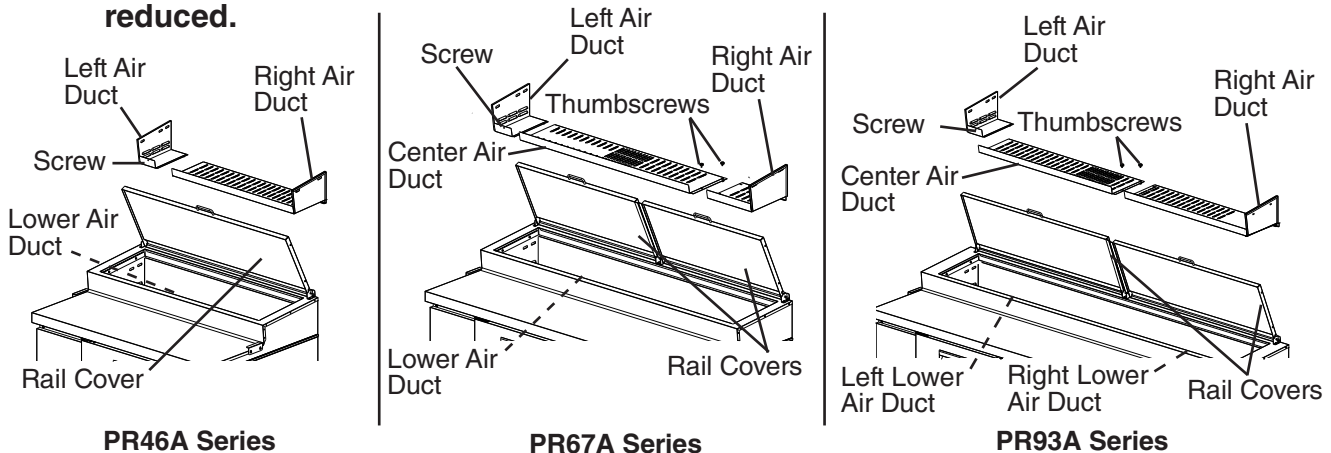

Fig. 38
- b) **Weekly:** Follow the steps below to remove and clean the air duct panels and rail area. The quantity of air duct panels varies by model. See Fig. 38.
- (1) Remove the thumbscrews (if applicable), then remove the air ducts. Remove the left air duct first, then the center air duct (if applicable), and finally the right air duct. Next, remove the lower air duct panel on the PR46A(-D2) and PR67A(-D2)(-D4), and the lower right air duct panel, and lower left air duct panel on the PR93A(-D2)(-D4)(-D6).
- (2) Wipe the air duct panels (top and bottom), rail area (sides and top), and surrounding mounting area with mild soap or detergent and warm water. Clean any rust colored spots using a non-abrasive cleanser. After cleaning, wipe the air duct panels with water.
- (3) Replace the lower air duct panel(s). Starting from the right side, replace the right air duct, center (if applicable), thumbscrews (if applicable), then the left air duct and screw. Be sure the left air duct screw and center air duct thumbscrews (if applicable) are installed and tightened. **WARNING! Air duct panels must be replaced in the proper location and orientation. See Fig. 38. Otherwise, cooling performance will be reduced.**